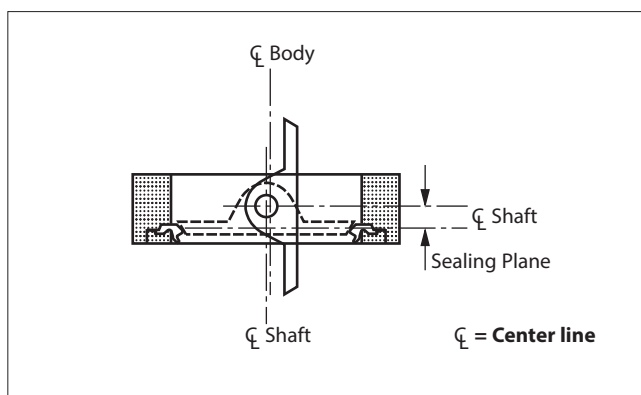

Figure 1. Offset Shaft Operation
One of the design features of the *Wafer-Sphere* valve that is responsible for its superior performance is the valve's offset shaft design. The shaft is offset in two planes: (1) away from the valve disc centerline and (2) behind the disc sealing plane. Offset shaft design makes the rotating disc "cam" back and away from the seat, completely eliminating the usual wear points at the top and bottom of the seat. Because the disc rotates off the seat in an eccentric arc, it operates in one quadrant only (See **Figure 1**).
4. Before installing a closed valve in the pipeline, be sure that the actuator is attached so that a counter-clockwise rotation, viewed from above, opens the valve (See **Figure 1**). Fully close the valve again before installing in the pipeline.